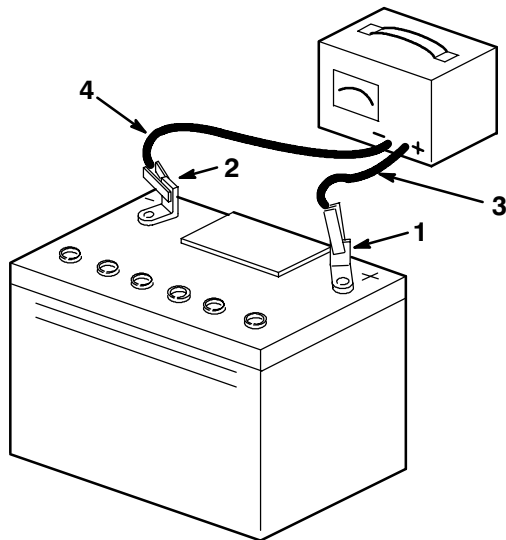

Figure 2
- Charge the battery for 10 to 15 minutes at 25 to 30 amps or 30 minutes at 4-6 amps (Fig. 2). Do not overcharge the battery.
- When the battery is fully charged, unplug the charger from the electrical outlet, then disconnect the charger leads from the battery posts (Fig. 2).